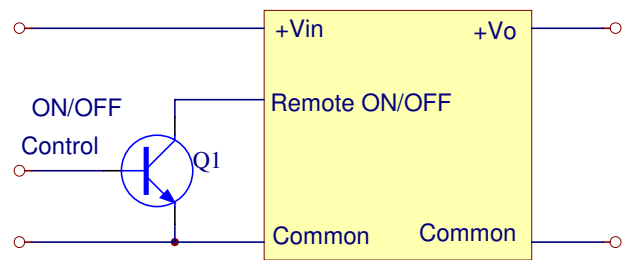

Figure 3. Positive Remote ON/OFF Input Drive Circuit
**Positive Logic-**The remote ON/OFF input feature of the converter allows external circuitry to turn the converter ON or OFF. Active-high remote ON/OFF is available as standard. The converters are turned 'on' if the remote ON/OFF pin is high (=Vin), or left open. Setting the pin low (<0.4VDC) will turn the converter 'off'. The signal level of the remote on/off input is defined with respect to ground. If remote on/off is not needed, leave the remote on/off pin disconnected and the module will be on. **Negative Logic-** Designated with a suffix "N" is the Negative remote ON/OFF version. The unit is 'off' if this voltage level is above 2.8Vdc. The converter is 'on' if the on/off pin input is low (<0.4Vdc) or left open. The recommended remote on/off drive circuits are shown in figures 3 and 4.